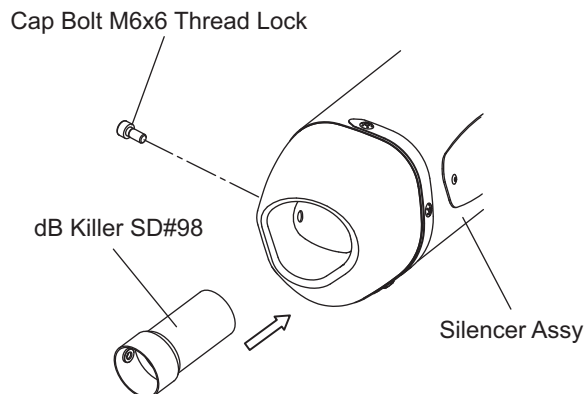

Fig. 6
- 5) If necessary, install dB Killer SD#98 using Cap Bolt M6x6 Thread Lock (See Fig.6). Tighten and torque the bolt.